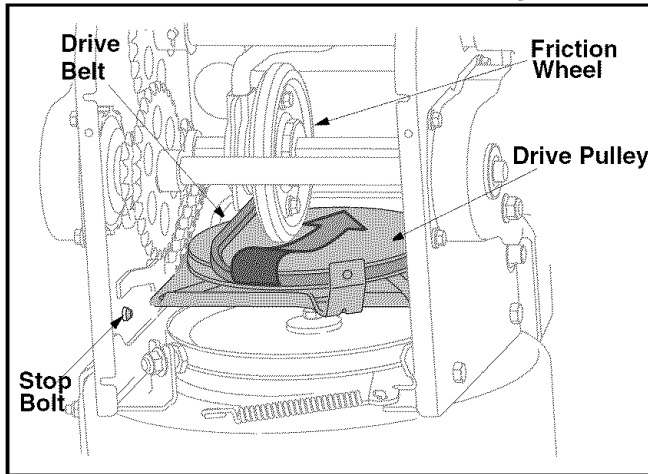

Figure 24
- Back out the stop bolt to create sufficient gap between the friction wheel disc and the drive pulley. Pull the drive belt from around the drive pulley and clear it off the friction wheel disc. See Figure 24.